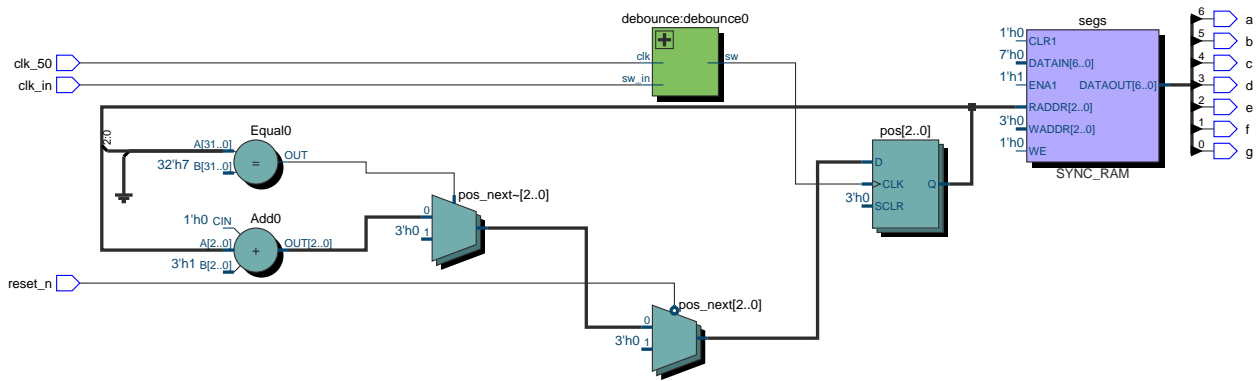

Figure 1: Example RTL Schematic for Lab 2.
2. The PDF file containing the schematic created by **Tools > Netlist Viewers > RTL Viewer** and then **File > Export...** . The file might look like Figure 1.